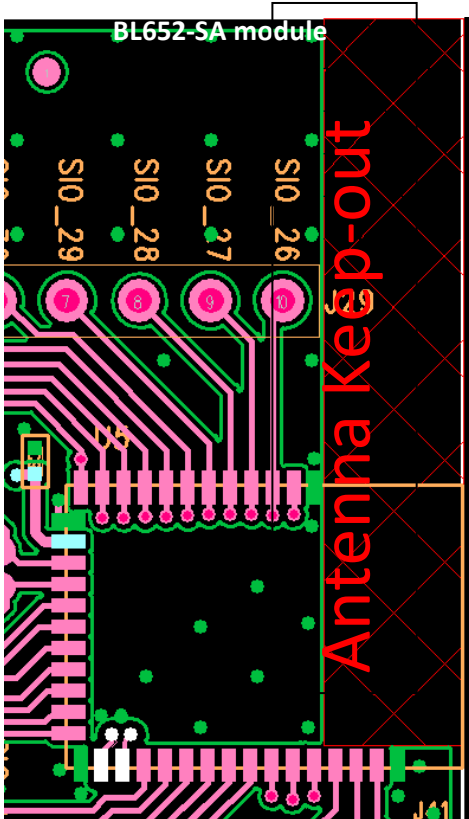

Figure 9: Antenna keep-out area (shown in red), corner of the BL652 development board for BL652-SA module.
- The BL652 development board has the BL652-SA module on the edge of the board (not in the corner). The antenna keep-out area is defined by the BL652 development board which was used for module development and antenna performance evaluation is shown in Figure 9, where the antenna keep-out area is ~4.95mm wide, 25.65 mm long; with PCB dielectric (no copper) height 0.85 mm sitting under the BL652-SA antenna.
- Host PCB land pattern and antenna keep-out for the BL652 applies when the BL652-SA is placed in the corner of the host PCB. When BL652-SA cannot be placed as such, it must be placed on the edge of the host PCB and the antenna keep out must be observed. Figure 9 shows an example.